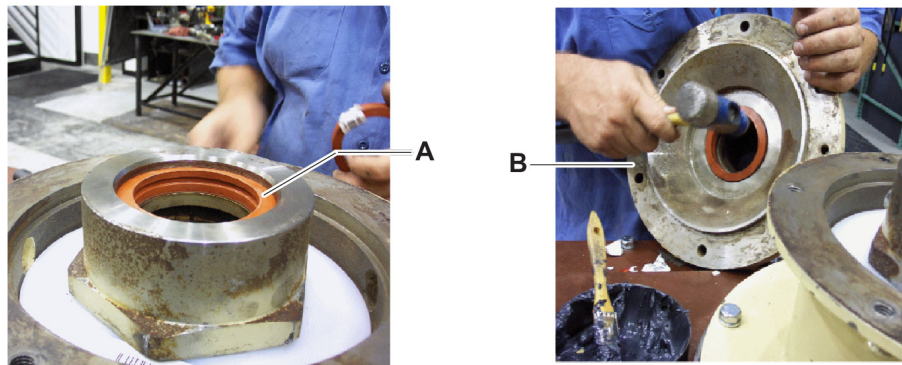

Figure 11
14. Insert one swivel 30-X packing (Figure 11, item A) into the spindle cap and one into the swivel cover (item B).